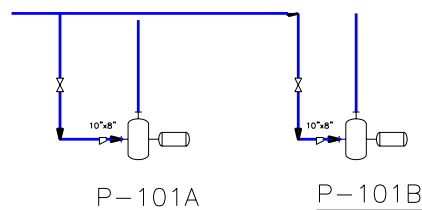

Figure 2-72 A gate valve and an eccentric reducer placed on the line connecting the second pump
5. Similarly, place an eccentric reducer and a gate valve on the pipe connecting the other pump, as shown in Figure 2-72.